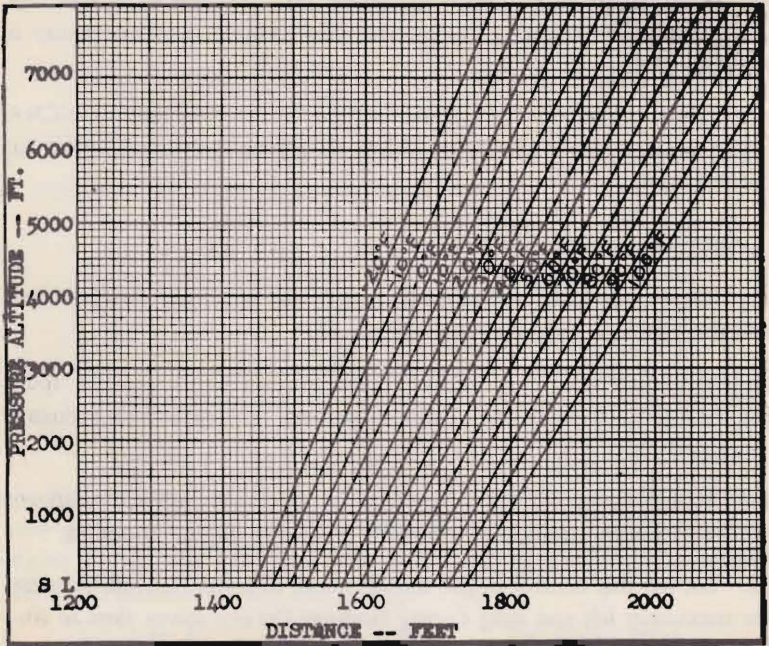

Figure 14—Landing Distance
55. Landing distances at altitudes from sea level to 7000 feet are shown on Figure 14. Included in the distance given by these curves is that required to contact the ground from an altitude of 50 feet above the field at an approach speed of 74 mph. The data from which these curves were derived was obtained during the CAA Certification Flight Tests conducted under the following conditions: